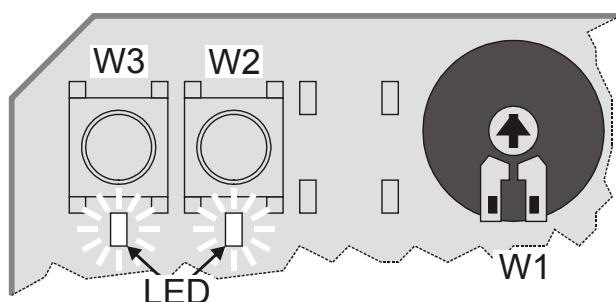

Fig. 1. Pushbuttons and potentiometer (default positions)
* Factory setting; can be reversed by pressing the right-hand pushbutton (W3) located on the PCB (see Fig. 1).
Using the potentiometer (W1) located on the printed circuit board (see Fig. 1), the actuator can be adjusted such that in case of a signal input failure (e.g. a broken wire), the actuator will run to any pre-configured position, e.g.:
The range of the analog input signal Y can be changed by pressing the left-hand pushbutton (W3) located on the printed circuit board (see Fig. 1). If the corresponding LED is lit, this indicates that the actuator is set for 0...10 V operation (factory setting); if it is dark, the actuator is set for 2...10 V operation.
The direction of action can be reversed by pressing the right-hand pushbutton (W2) located on the printed circuit board (see Fig. 1). If the corresponding LED is lit, this indicates that the actuator stem will retract at a control signal of 0(2) Vdc (factory setting); if it is dark, the actuator stem will extend at a control signal of 0(2) Vdc.